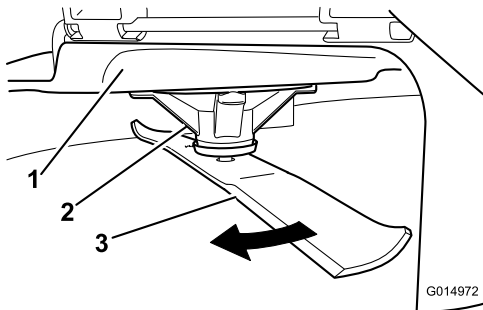

Figure 53
2. While wearing thickly padded gloves, or other adequate hand protection, slowly rotate the blade into a position that allows you to measure the distance between the cutting edge and the level surface the machine is on (Figure 53).